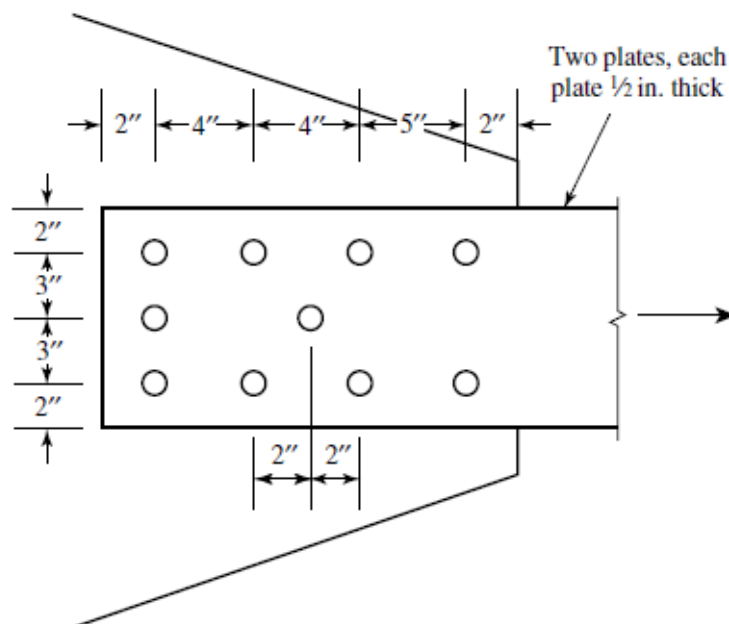

Figure 1
1. A tension member is composed of **two** 1/2"x10" plates. They are connected to a gusset plate with the gusset plate between the two tension member plates, as shown in Figure 1. A36 steel and 3/4-inch-diameter bolts are used. Determine the nominal strength based on the net section.